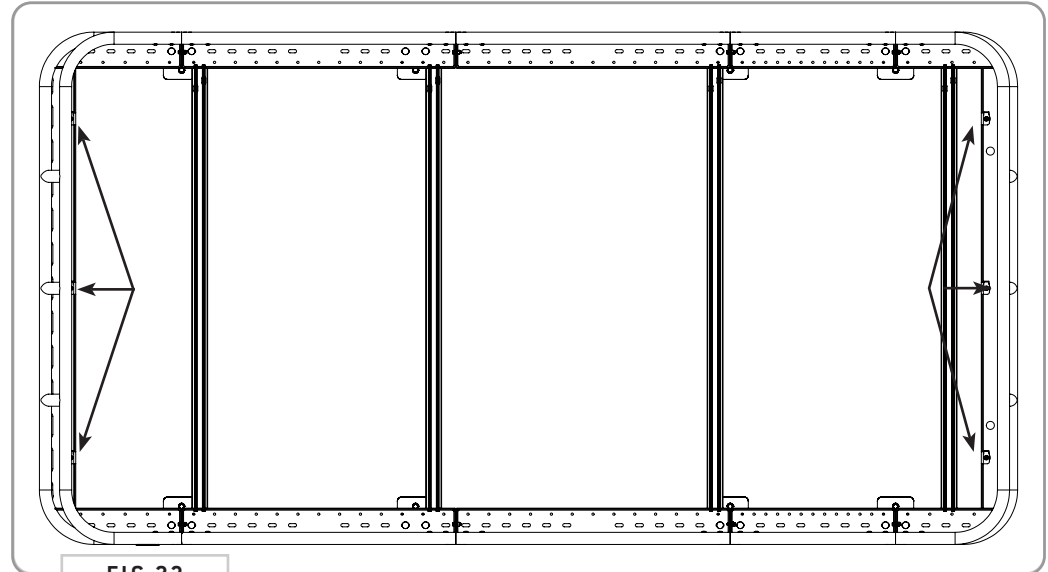

FIG 23
**10.1 Attach Clip Nuts to Baskets:** Install the **Clip Nuts** to the **Front and Rear Basket** locations as shown in **FIG 23**.